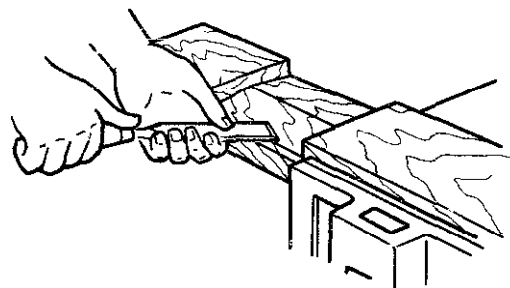

Fig. 9-18 Finishing roughed out gain with paring cuts.
- c. Make a cut in the same way from the opposite side of the gain. See figure 9-18. The work is now ready to be pared to a finished depth.